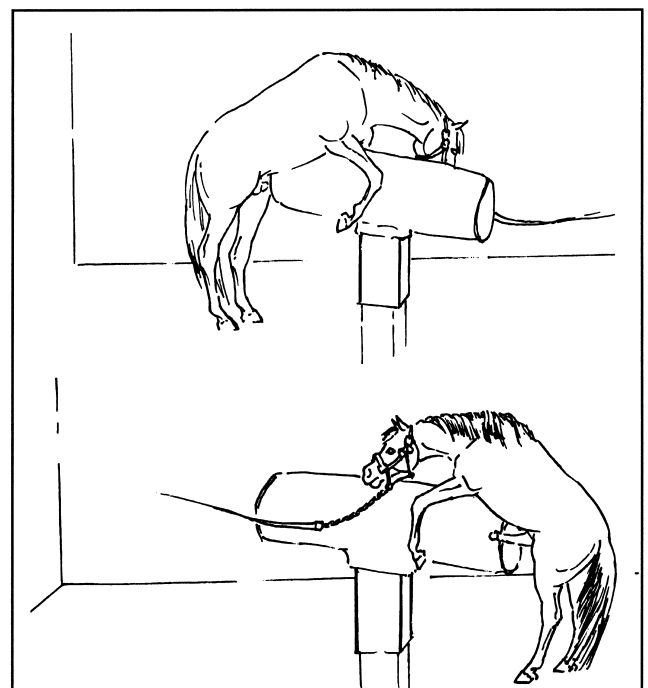

Fig. 1. Use either end of a dummy mount with angled barrel to accommodate stallions of different heights.
11. *Adjustable height or angle dummy mounts* are also useful, but are difficult to accomplish without introducing problems of movement and rattle. For adjustable designs, a good range that will fit almost all light and heavy horses and large ponies if 48 to 68 in. An angled dummy mount positioned for mounting either end can effectively achieve two heights (Fig. 1).